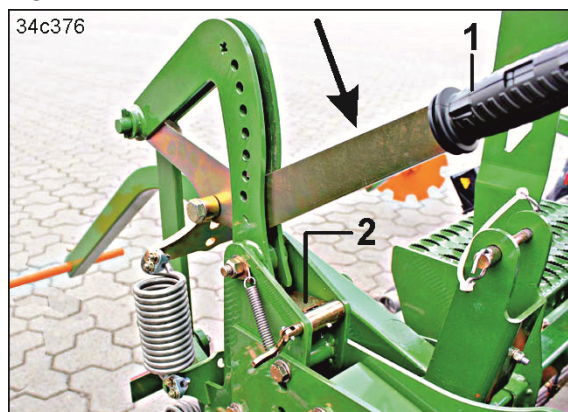

Fig. 188
4. Push the lever (Fig. 188/1) in the direction shown by the arrow until the clamping plate (Fig. 188/2) engages.